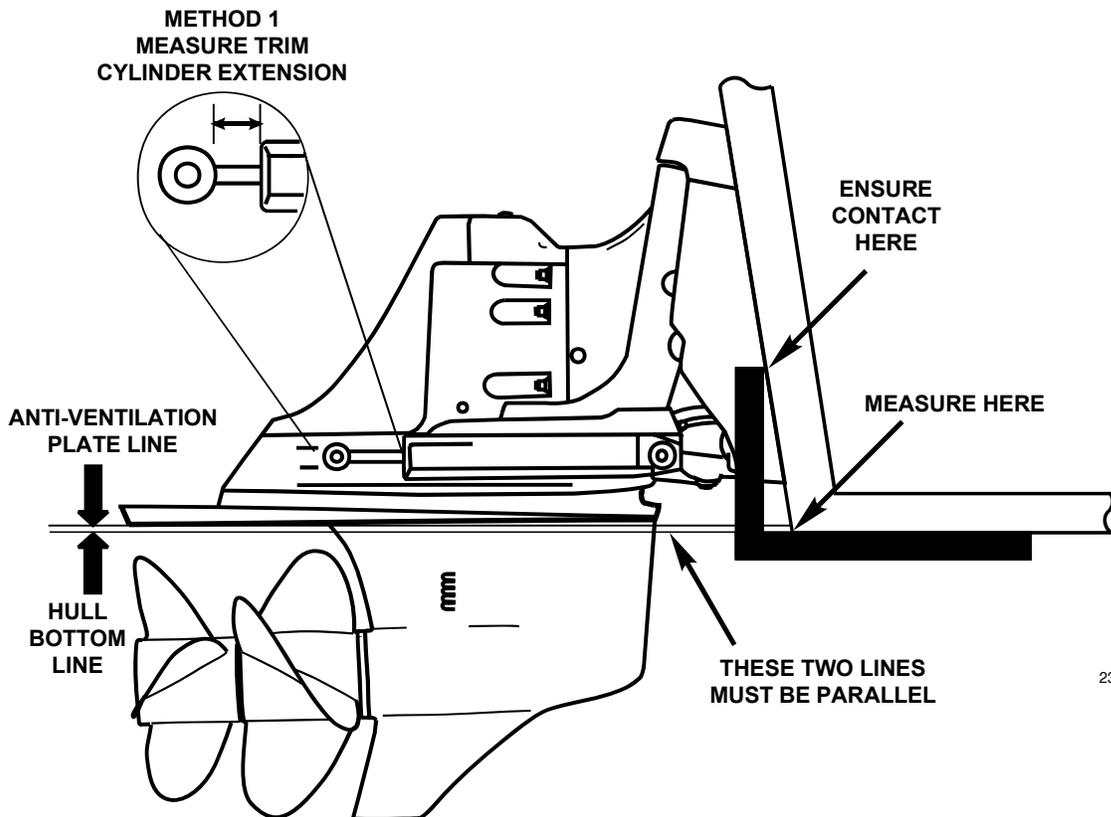

Figure 2. Determining Proper Positioning of Drive Unit for Protractor Setup
The trim limiter system has three set points that once set, will limit the trim range and tilt range of the drive unit. The factory settings of these limits are based on a boat with a 13° transom angle. Trim is limited on a 13° transom angle to +5° to -2° for the DuoProp® and +12° to -6° for the SX and tilt is limited to 45° on both models. If necessary, any of these limits may be changed to accommodate other transom angles and/or swim platforms. **In order to properly set the trim limiter, 'zero' trim must first be determined as in figure 2.** We provide two methods in determining zero trim. Method 1 requires the installer to know the boat's transom angle. Method 2 is used if the transom angle cannot be easily determined.
2. Once zero is established, "sight-in" the drive and boats bottom as shown in figure 2 to verify accuracy. If the anti-ventilation plate and boats bottom do not appear parallel use Method 2 to zero out the drive.
2. **IMPORTANT:** Place the boat on a secure cradle, trailer, or other approved boat holding device. Adjust the drive unit so that the anti-ventilation plate is parallel to the boat's bottom, refer to figure 2. Use a straight edge along the boat's bottom to aid in determining these lines. On a few boats, there may be a slight hook designed into the hull near the transom, disregard this hook and use the keel